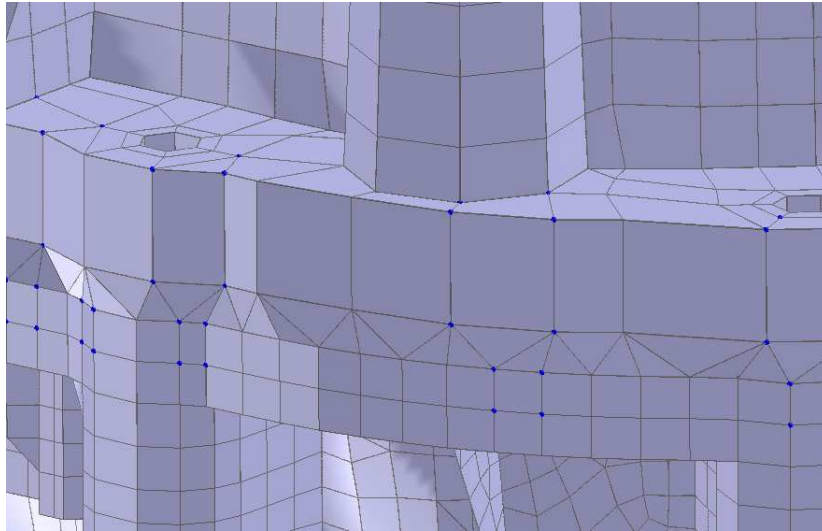

Figure 5.40: Complete Stitched Seam.
- To accept the stitch click on: **Stitch Seams** → **Stitch Seams**. See Figure 5.40.